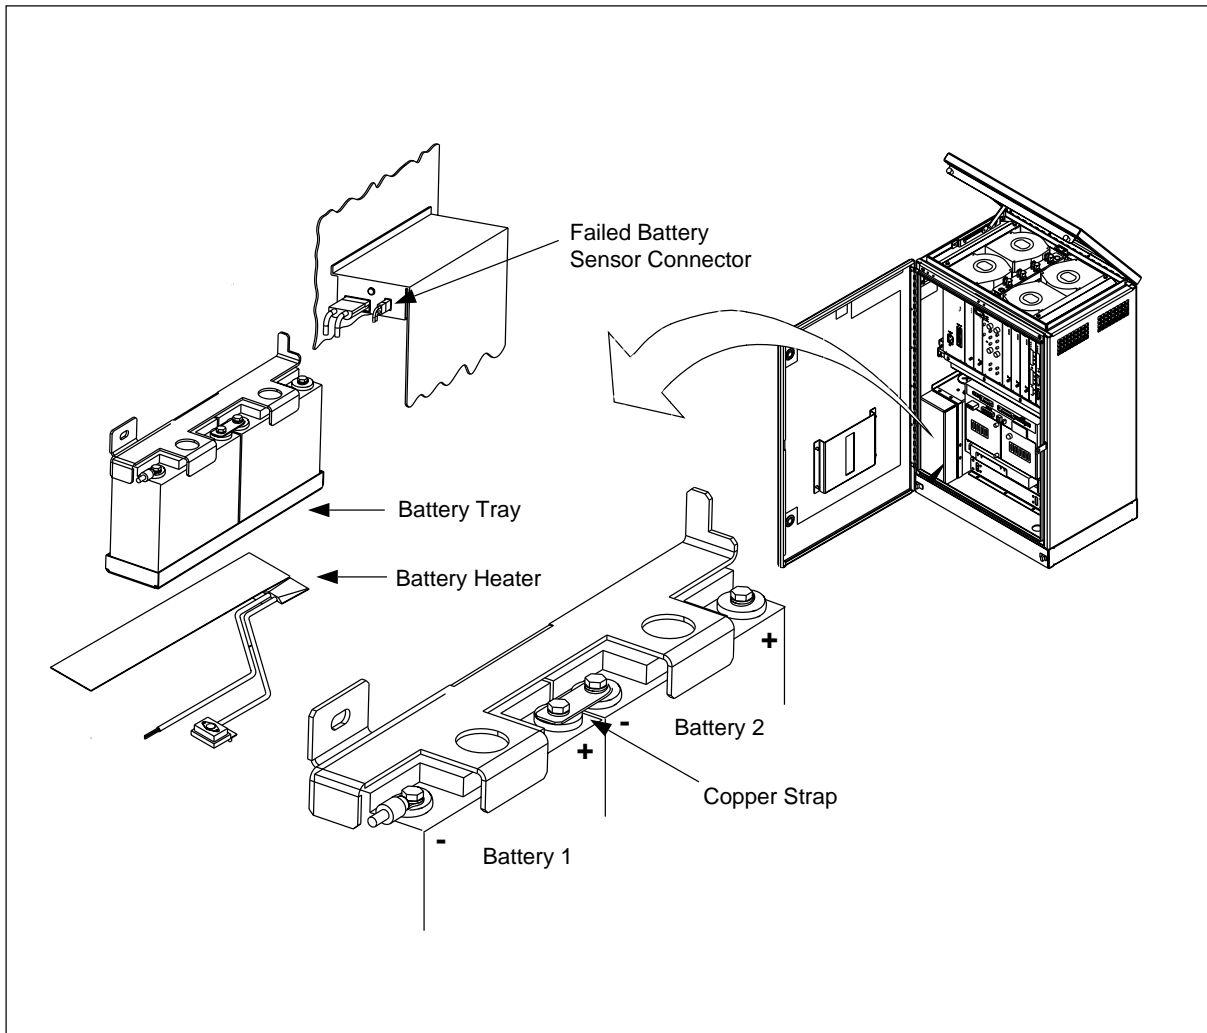

Figure 5-25. Battery Assembly
11. Locate the battery compartment. The battery heater is under the battery tray. See Figure 5-25 on page 5-50.
4. Locate the battery compartment. See Figure 5-25 on page 5-50.
17. Install the batteries into the battery tray as illustrated in Figure 5-25 on page 5-50. Place the hold-down bracket on the batteries.